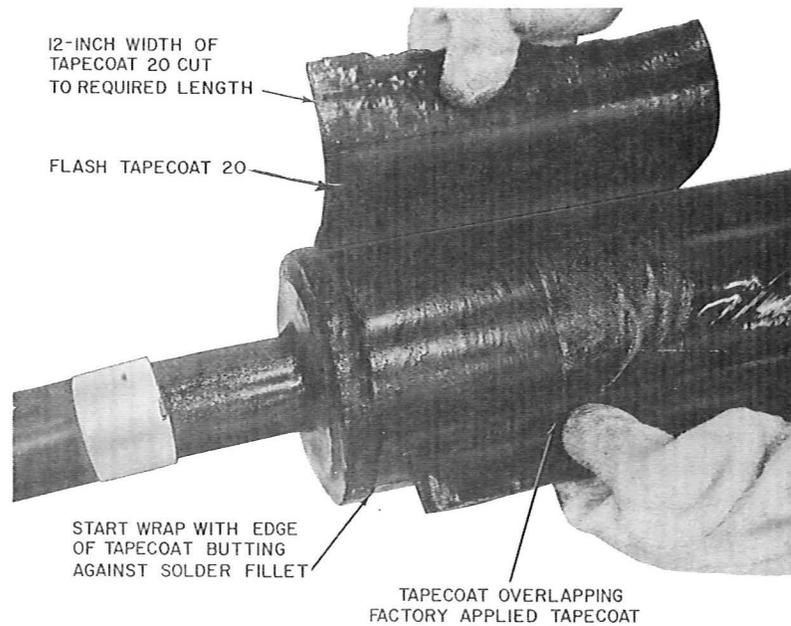

Fig. 16—Wrapping Steel Sleeve
9.06 Heat and apply one wrap of 12-inch wide Tapecoat 20 around each end of the sleeve as shown in Fig. 16. Apply only enough heat to soften the Tapecoat; do not allow it to ignite and burn. One edge of the Tapecoat should butt up